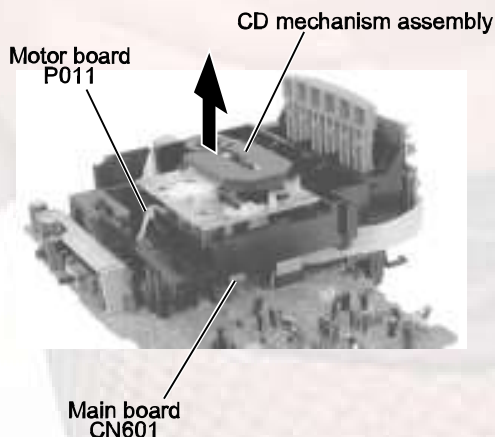

Fig.16
■Removing the CD mechanism assembly (See Fig.16)